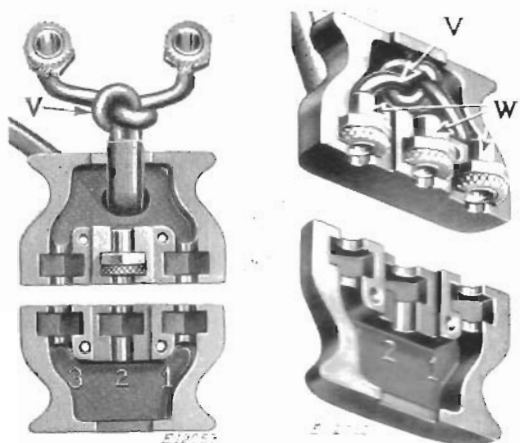
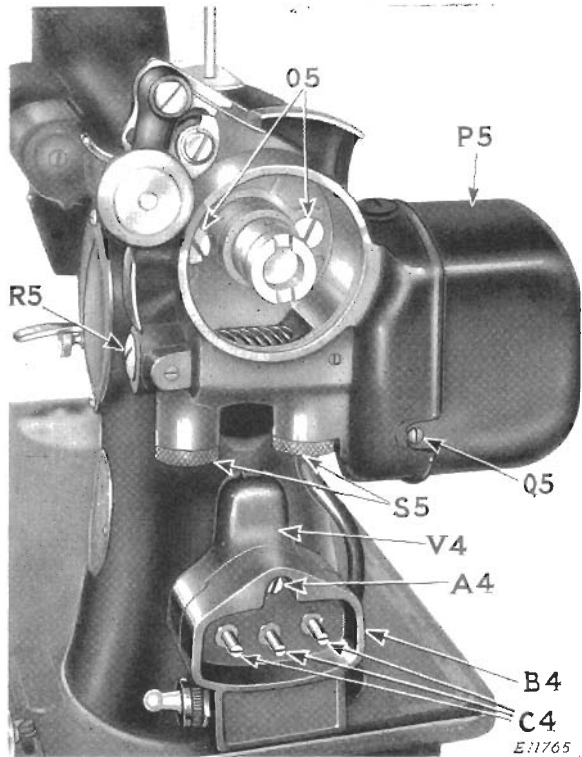
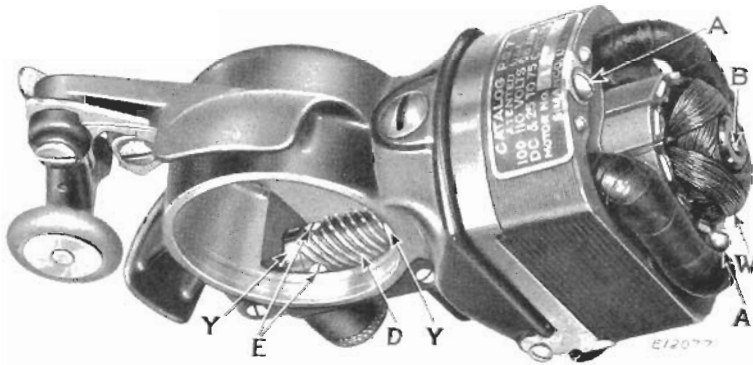
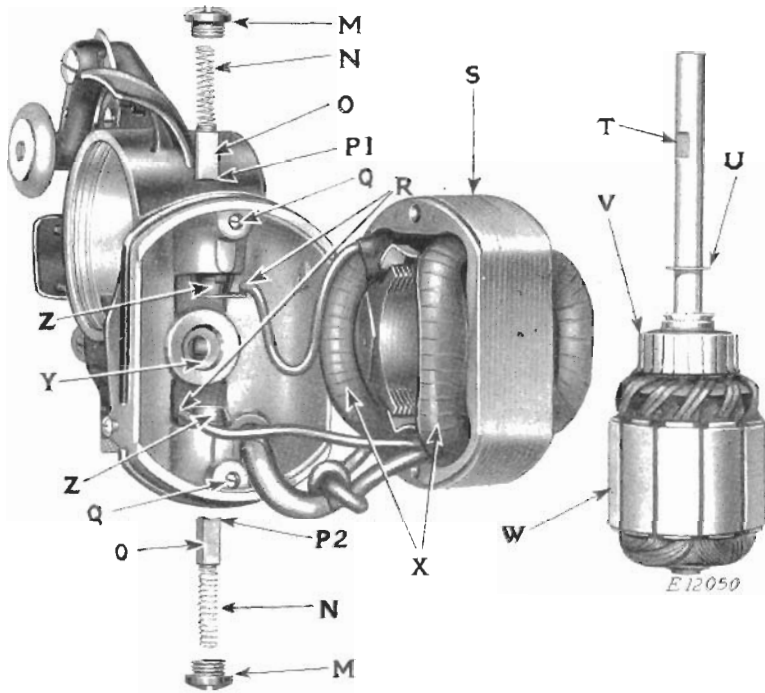

FIG. 13
FIG. 15. MACHINE 201-2 AND MOTOR
FIG. 16. MOTOR WITH COVER REMOVED
FIG. 17. MOTOR DISASSEMBLED
Inspect the soldered connections (R, Fig. 17) at the brush tubes. See "Replace Field Core with Coils," page 23.
Three-Pin Terminal Plug, shown in Figs. 13 and 14, has three sleeves (W, Fig. 14) which are engaged by the three pins (C4, Fig. 15) when the plug is pushed into the three-pin terminal block (B4, Fig. 15).
Note that the two wires are knotted together as shown by (V, Figs. 13 and 14). This is to prevent strain or breakage in case the plug is pulled from the three-pin terminal by grasping the wires instead of the plug. Therefore, the knot is placed so that it, instead of the connections, bears the strain when the plug is drawn out of the terminal.
Take out screw (A4, Fig. 15) and remove the three-pin terminal (B4) from the terminal bracket (V4).
Remove Motor Cover. Loosen the two screws, one of which is shown at (Q5, Fig. 15) and remove motor cover (P5, Fig. 15) by pulling and, at the same time, rocking it up and down slightly, being careful to prevent inside of cover damaging the field coils.
Remove Brushes—Machine 201-2. Take out screw caps (M, Fig. 17). When the screw caps are removed, the brush springs may protrude from the screw holes, and brushes can then be easily withdrawn. However, should difficulty be experienced in removing the brushes, this can be done conveniently after removal of the armature in accordance with "Remove Armature" following. It is advisable to mark the brushes at (P1 and P2, Fig. 17) to make sure that they will be replaced in the same relative position as before removal.
screws (E, Fig. 16) in the spiral gear (D, Fig. 16) so that the armature shaft can be withdrawn from its bearings. Remove the armature (W, Fig. 16).
If wiring is not damaged, clean commutator (V, Fig. 17) with a dry, clean cloth before assembling motor. If it is impossible to get the commutator bright by this means, use an ordinary rubber eraser. **Never use anything else on a small motor commutator.**
Remove the Field Core with Coils—Machine 201-2. Loosen the two screws (A, Fig. 16) and remove the field core (S, Fig. 17) from the commutator end cover which, in this case, is part of the motor frame. The removal of the field core must be done carefully to prevent damage to the field coil insulation, and to prevent strain at the soldered brush tube connections (R, Fig. 17).
Clean Brushes and Brush Tubes—Machine 201-2. Thoroughly clean the carbon brushes (O, Fig. 17), inner walls of brush tubes and inside of end covers, with a dry, clean cloth.
Inspect Wire Connections to Brush Tubes—Machine 201-2. Examine both field wire connections (R, Fig. 17) at the brush tubes. If broken, these connections should be securely soldered to the lugs of the brush tubes. Any loose strands of wire should be cut off.
Remove and Replace Brush Tubes—Machine 201-2. After the brushes and brush tubes have been cleaned, the brushes should slide freely in the brush tubes. If they do not, the brush tubes should be replaced by new ones. The new brush tubes must be replaced in the same manner as the old tubes, viz., firmly positioned in the insulating bushings (Z, Fig. 17), and with the field leads properly soldered to the lugs of the new tubes, as shown by (R, Fig. 17).
Remove and Replace Insulating Bushings—Machine 201-2. If the threads in the insulating bushings (Z, Fig. 17) and on screw caps (M, Fig. 17) become stripped, these parts should be replaced by new ones. When these bushings require replacement, the brush tubes also should be replaced with new ones. Do not attempt to use the old brush tubes in the new bushings. Loosen the two screws at (Q, Fig. 17) to release the bushings (Z, Fig. 17). When the new bushings are in place, tighten the screws (Q, Fig. 17).
Replace the Field Core with Coils. After the insulating bushings are replaced, the field coil wires properly soldered to the brush tubes as shown at (R, Fig. 17) and brush tubes in place in insulating bushings (Z, Fig. 17), put field core (S, Fig. 17) in place on commutator end cover, being careful not to damage field coil insulation. When the field core is properly seated on commutator end cover, insert and tighten screws (A, Fig. 16).
When the armature was removed, as instructed on page 22, the spring-pressured grease wick for each of the two bearings (Y) projected into the shaft bearings. Therefore, before replacing the armature and shaft, remove the two grease wicks in order that armature shaft may be inserted in its bearings without damage to the wicks. To do this, remove cap screws (S5, Fig. 15) and, using a small screw driver, carefully remove the grease wick spring retainer, together with grease wick spring and grease wick from each grease cup.
Put the spiral gear in position between the two bronze shaft bearings (Y, Fig. 16), having the two set screws (E, Fig. 16) toward the cap screw (R5, Fig. 15) in order that one of the two screws (E) can engage the "flat" (T) on the armature shaft. Insert armature (W) so that the fibre washer (U) is against the first of the two shaft bearings (Y, Fig. 17).
When armature shaft is in place in its bearings and through spiral gear (D, Fig. 16), the "flat" (T), against which one of the two set screws (E, Fig. 16) is to be tightened, is covered. Its position is, however, indicated by the "flat" at (B, Fig. 16) at the cover end of the shaft. Be sure that one of the two screws (E, Fig. 16) engages the "flat" (T), then tighten both screws (E).
Replace the grease wicks, making sure that the inner ends of the wicks are against the armature shaft. Then put the grease wick spring retainers in place in the grease cups, having the tab, at the outer end of each retainer, over the outer end of the grease wick spring. Fill the grease cups and replace cap screws (S5, Fig. 15).
Replace Brushes—Machine 201-2. When inserting the brushes in the brush tubes, make sure that their concave ends (P1 and P2, Fig. 17) correspond with the convex surface of the commutator, and that they are replaced in the same relative position as before removal. See "Remove Brushes," page 22. Hold end of brush spring and tap the brush against the commutator until contact is clearly heard. Then insert and tighten the two screw caps (M, Fig. 17), being careful not to strip the threads.
Place the motor frame, with motor, on its seat on the machine arm, and insert and tighten the two screws (O5, Fig. 15). Fasten the three-pin terminal (B4) to its bracket (V4) by means of the screw (A4).
Remove the two cap screws (S5, Fig. 15) from the two grease cups and clean out the interiors of the cups. Insert the tip of the motor lubricant tube into the grease cups and squeeze about a quarter of the tube of lubricant into each grease cup, then replace and tighten the cap screws (S5, Fig. 15).